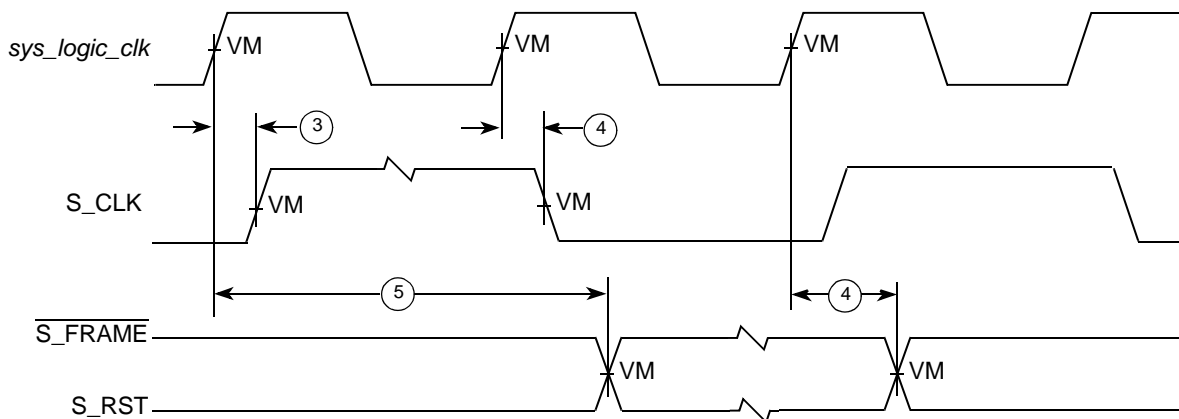
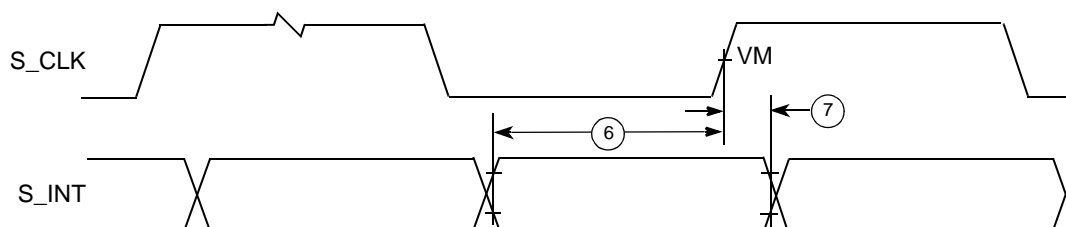

Figure 20. PIC Serial Interrupt Mode Output Timing Diagram
Figure 21. PIC Serial Interrupt Mode Input Timing Diagram
2. S_RST, $\overline{\text{S_FRAME}}$, and S_INT shown in Figure 20 and Figure 21, depict timing relationships to *sys_logic_clk* and S_CLK and do not describe functional relationships between S_RST, $\overline{\text{S_FRAME}}$, and S_INT. See the *MPC8245 Integrated Processor User's Manual* for a complete description of the functional relationships between these signals.